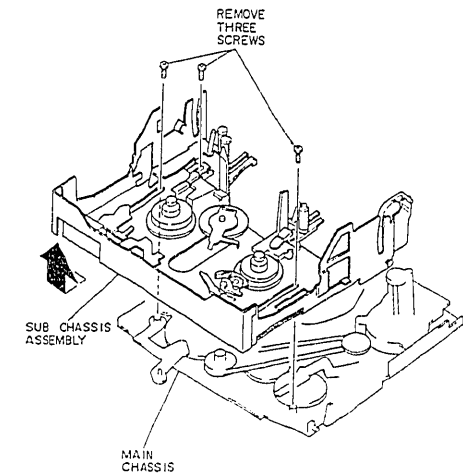

Fig. 2-40
- 1) Remove three (3) screws holding the sub chassis assembly. (See Fig. 2-40)